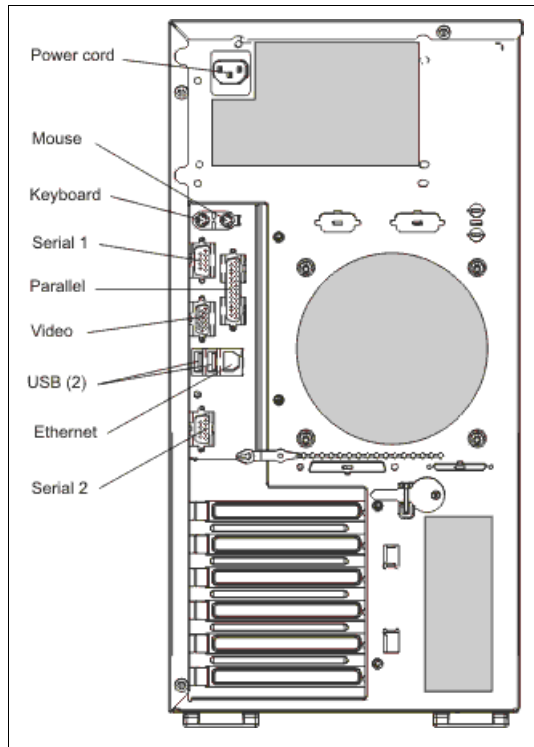

Figure 3-5 Back view of a stand-alone HMC 7310-C05
- A stand-alone HMC 7310-C05 (Figure 3-5 on page 74)